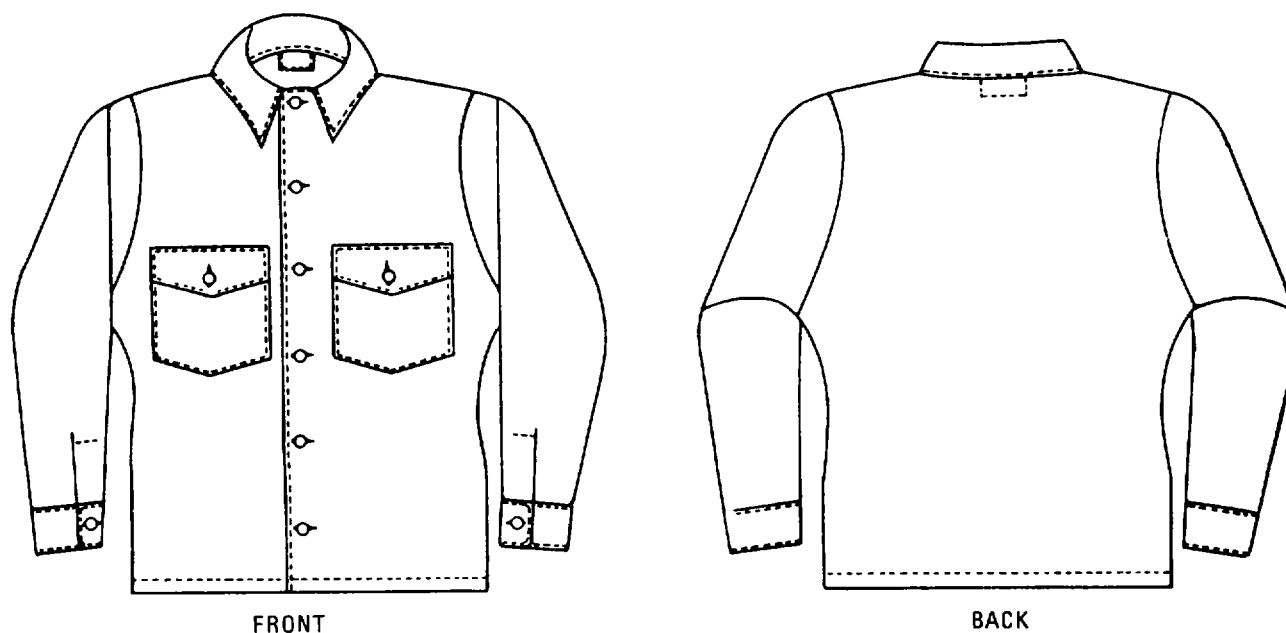

Figure 2-1. Shirt Utility (Durable Press) Olive green 507, type 1
- (1) Shirt, Utility (Durable Press) OG-507 (table 2-1).
- (2) This shirt (fig. 2-1) Is fabricated from cloth, twill, polyester/cotton, durable press, olive green 507. It is a loose-fitting garment with six button front, two outside patch pockets with button-down flaps; and a button on each cuff. The shirt tall has a square design and is worn inside the trousers.